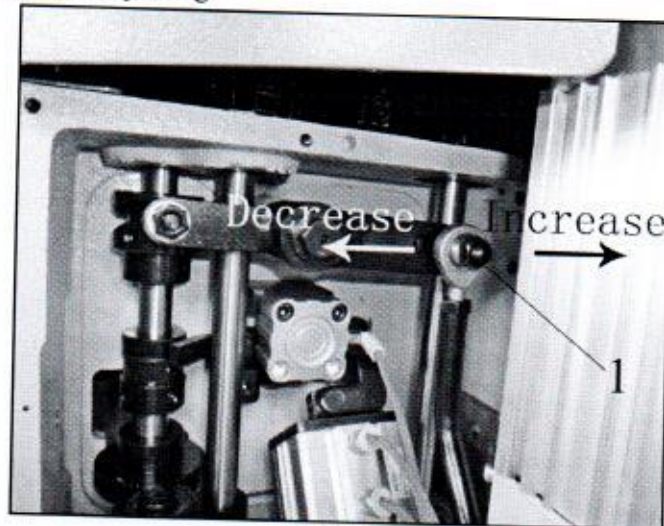

Fig.4
3.5 Stitch length adjustment setting (Fig.4)
The machine is designed to permit stitch lengths between a minimum of 4mm and a maximum of 10mm. To adjust the stitch length, proceed as follows: (Fig.4)
- Move the head of connecting rod to the left direction means decrease the stitch length, and move it to the right direction means increase the stitch length. (as shown in Fig.4)